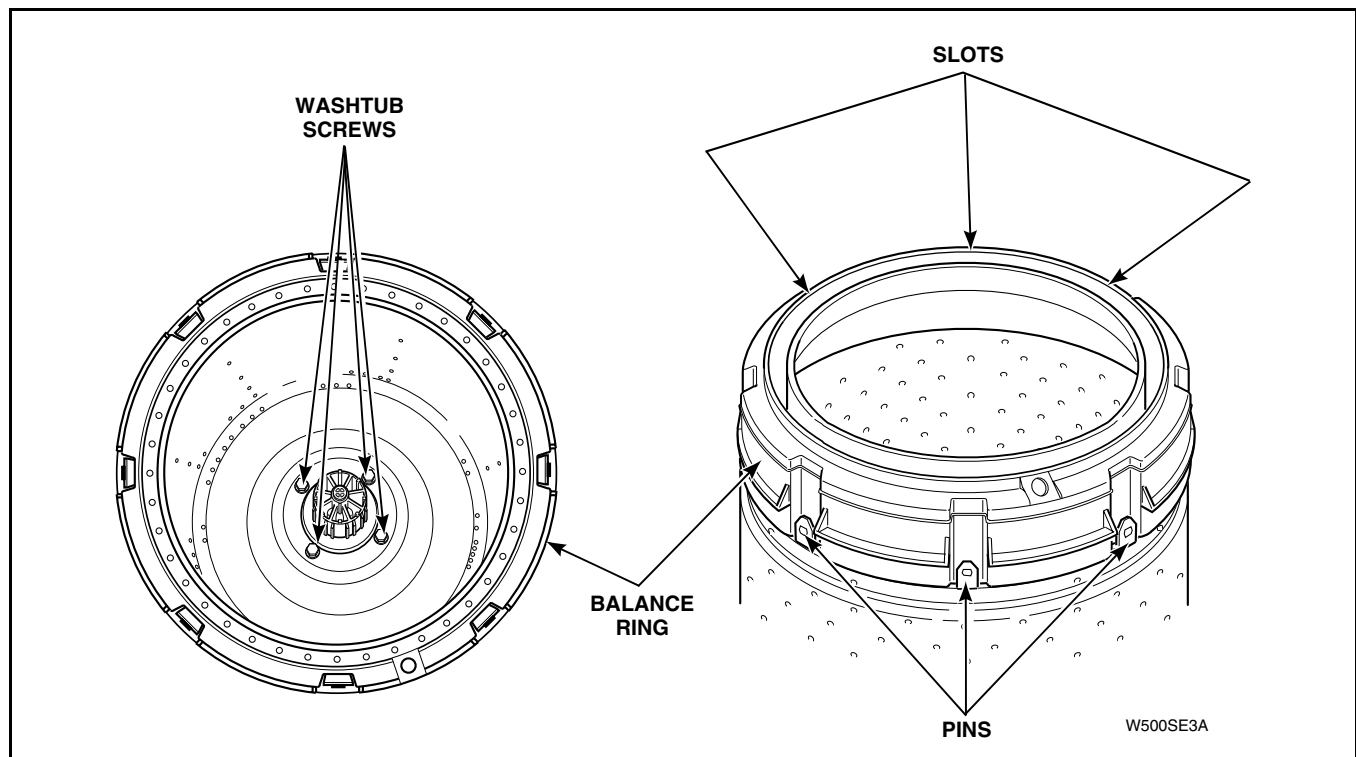

Figure 49
- r. Place blade of a small screwdriver into slots between balance ring and washtub. Refer to *Figure 49*.
- s. Carefully pry pins of balance ring out of holes in washtub. Refer to *Figure 49*.
- (7) Lower cover and push down firmly on top of hold-down tabs next to positioning pin until tabs snap over edge of outer tub flange.
- (8) Cross over to opposite side of tub cover and push down firmly on top of hold-down tabs until tabs snap over edge of outer tub flange. Continue with this criss-cross pattern, until tub cover is fully seated. Visually check each tab area again to ensure cover is seated.
- i. Remove screws holding washtub to hub. Refer to *Figure 49*. Then lift washtub (with balance ring attached) out of outer tub.